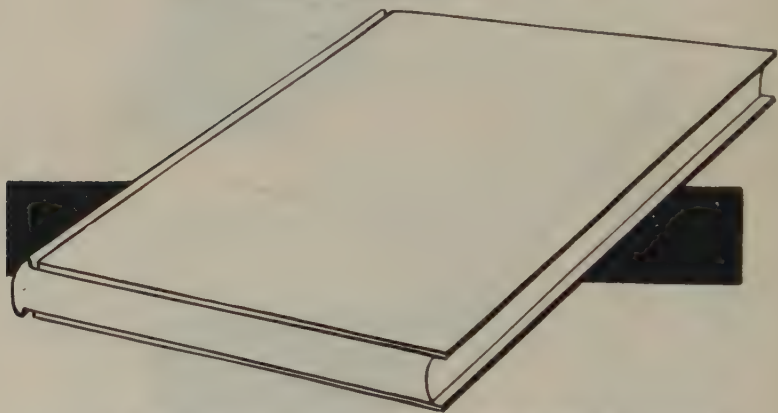

FIG. 219—FITTING BOARDS TO BOOK FOR COVER MAKING
3. Lay your boards in position on your "lined-up" book, allowing projecting edges of boards to show "squares" on three outer edges and set boards off from "joints" $\frac{1}{8}$ ". (Fig. 219.)